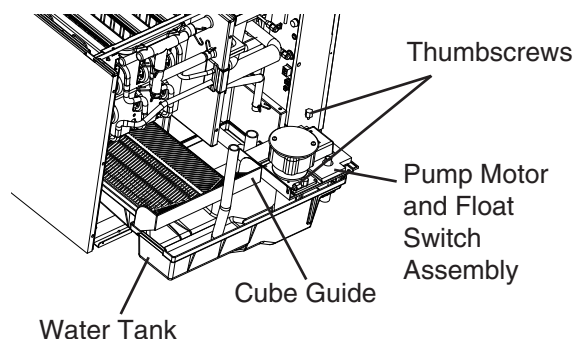

Fig. 15
- d. Remove the 2 thumbscrews securing the pump motor and float switch assembly. See Fig. 15.
- 11) Replace insulation panel (A) and the front panel in their correct positions.